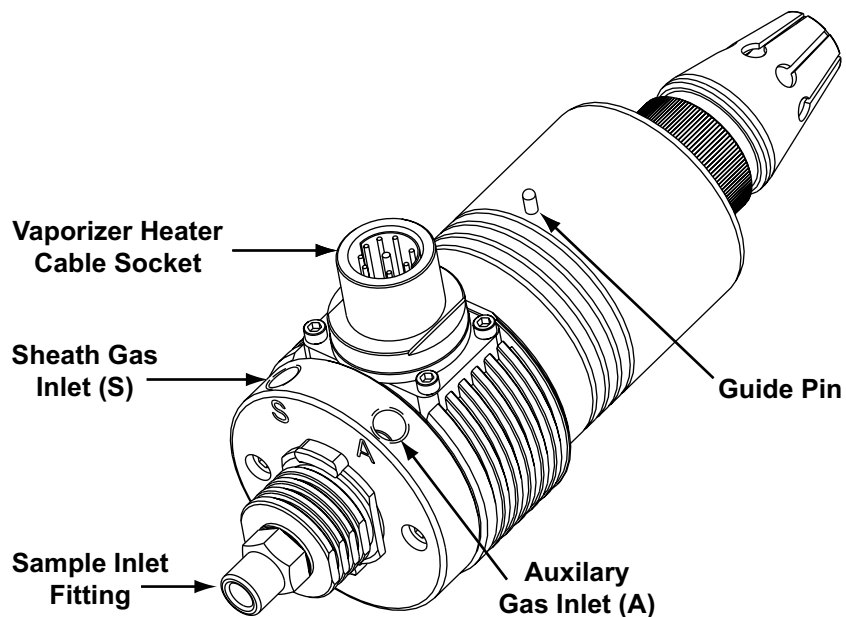

Figure 63. APCI probe
1. Connect an appropriate length of (red) PEEK tubing (transfer line from the divert/inject valve) from port 3 of the divert/inject valve to the (stainless steel) sample inlet fitting on the APCI probe. See Figure 62 and Figure 63.